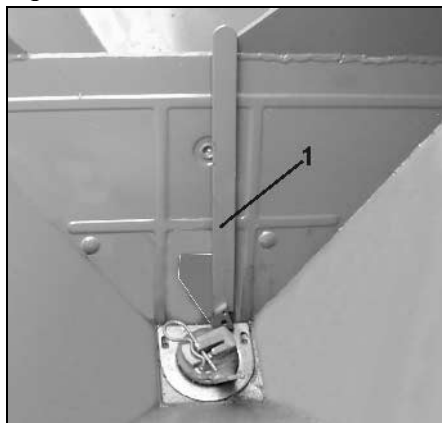

Fig. 59
- Now the setting gauge (Fig. 59/2) should easily pass through the opened outlet diameter.